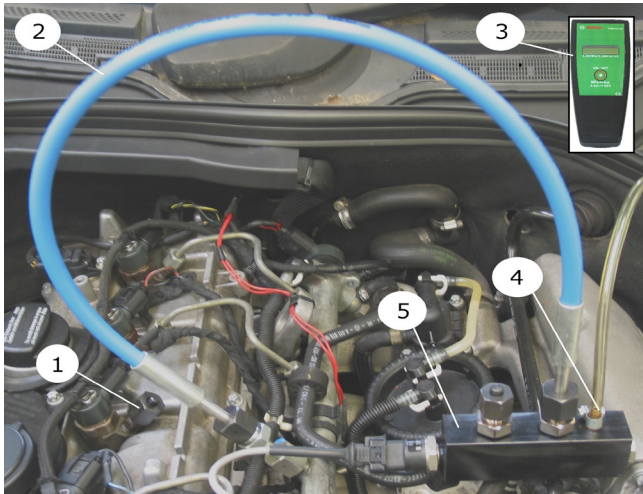

Abb. 15: Example of connecting the rail pressure sensor for a comparison test (engine running with n-1 cylinders)
! For safety reasons, a pressure limiter that limits the pressure to 180 MPa is incorporated into the pressure sensor (fig. 15, item 5). Be sure to attach the provided hose to the connection (fig. 15, item 4) on the pressure sensor and direct it into a collecting container suitable for diesel fuel.
3. Seal the injector high-pressure connection (fig. 15, item 1) with a protective cap (see spare parts list for Bosch ESI[tronic]).
4. Using the appropriate connection adapter, angle, nut and compression ring (left-hand thread), connect the 180 MPa hose assembly (fig. 15, item 2) to the rail.
7. Attach the connecting cable to the pressure display unit (fig. 15, item 3) and rail pressure sensor of the pressure sensor.